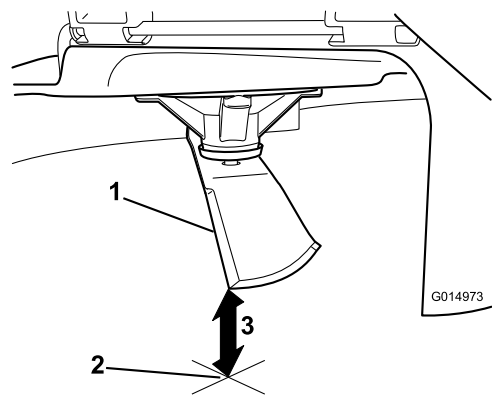

Figure 67
3. Measure from the tip of the blade to the flat surface (Figure 67).